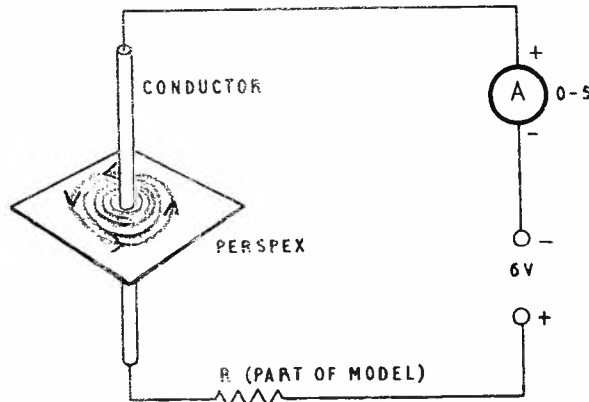

FIG. 4.
STEP 4. Sprinkle iron filings on the perspex around the conductor, close the switch, and lightly tap the surface. Record the field pattern on Fig. 4.